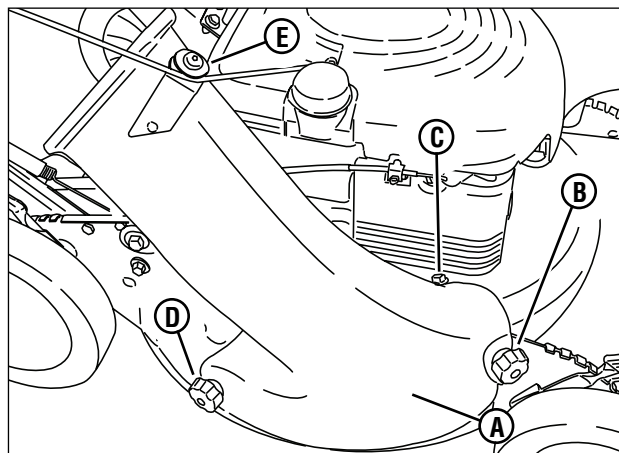

Figure 11: Installing the grass bag adapter
2. Install the adapter (**A**, **Figure 11**) to the deck in place of the recycling cover, making sure that: